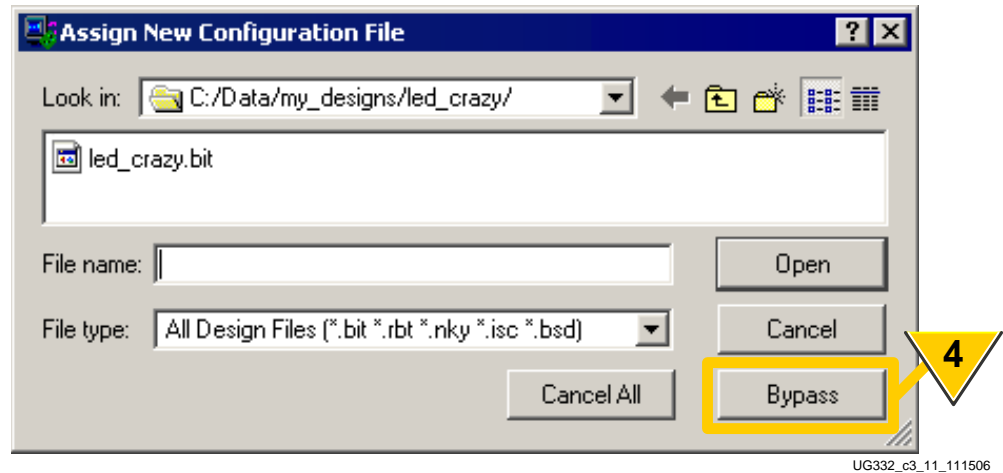

Figure 3-16: Bypass Programming the FPGA
4. In this example, the XC3S700A precedes the XCF04S Platform Flash PROM in the chain. The FPGA does not need to be programmed in order to program the Platform Flash PROM. The iMPACT software prompts for the FPGA bitstream, as shown in Figure 3-16. Click **Bypass** to skip programming the FPGA.